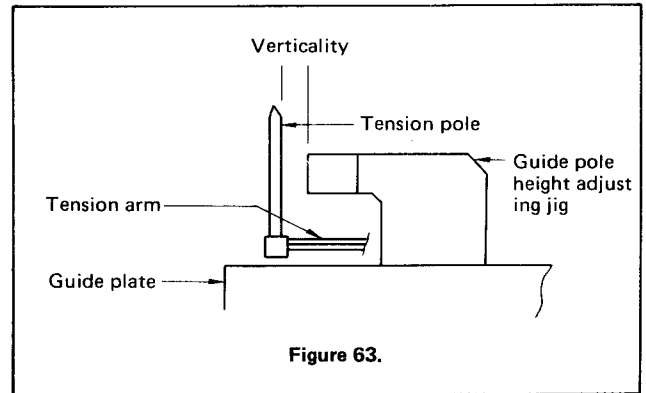

Figure 63.
2. Set a guide pole height-adjusting jig as shown in Fig. 63.